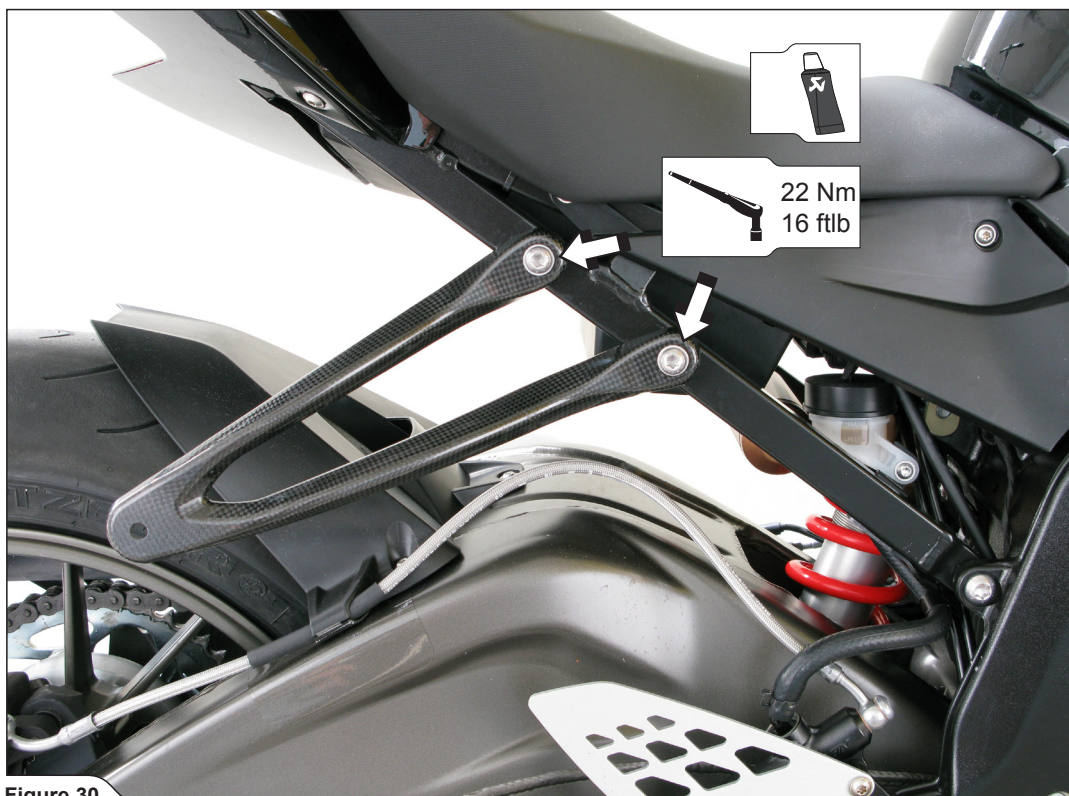

Figure 30
13. **For optional carbon-fiber muffler bracket only:** attach the optional Akrapovič carbon-fiber bracket as shown, using stock bolts (**Figure 30**).